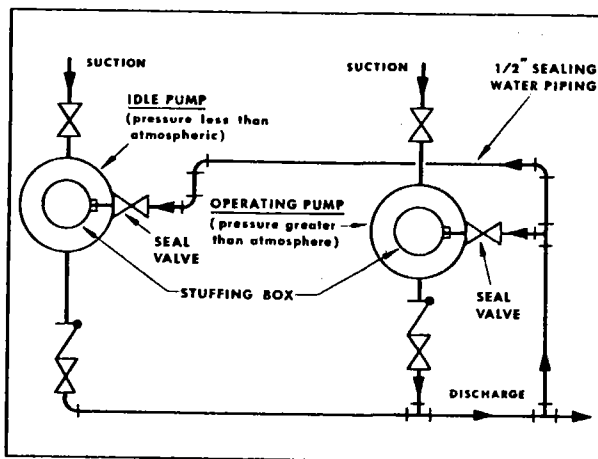

Figure 3-5. Piping Arrangement
- a.\* Remove packing and gland and insert centering gage in stuffing box (figure 3-5).
3-23. An idle pump handling steam condensate with suction pressure less than atmospheric is vulnerable to the entrance of air through the stuffing box packing. The piping arrangement shown in figure 3-5 is suggested to provide above atmospheric pressure to one of the seal cage connections. The outlet connection is plugged.